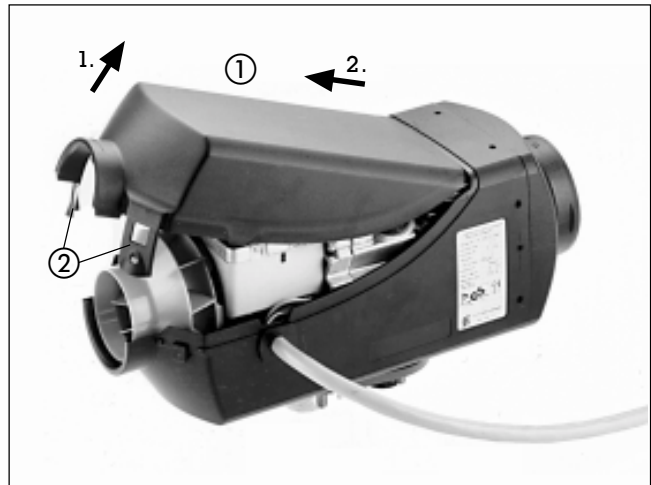

Fig. 1
- Remove the AIRTRONIC cover (see fig. 1).
- Remove the *AIRTRONIC* cover (see fig. 1)